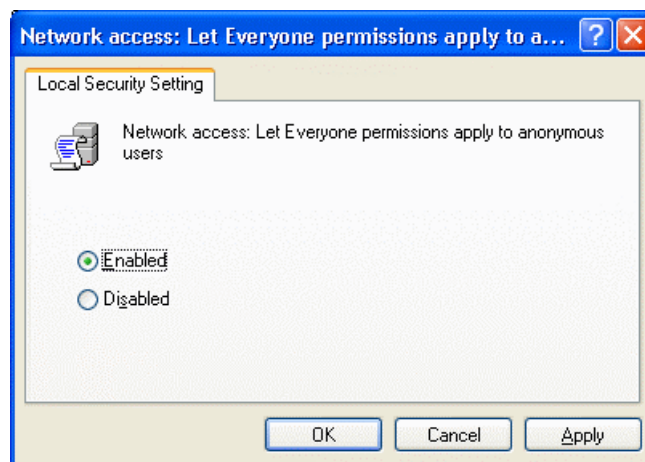

Fig. 6.3-15 Network Access:Let Everyone Permissions Apply to Anonymous Users Window
7. Check Enabled, and then click on **Apply**. (Shown in Fig. 6.3-15.)